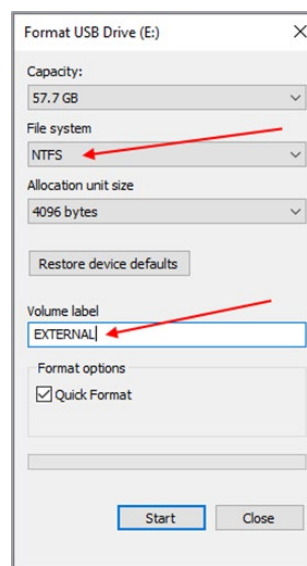

Figure 28. Select NTFS for file system and set volume label to “EXTERNAL”
Step 2. Select NTFS for File System and set the volume label to “EXTERNAL” (Optional) (Figure 28)